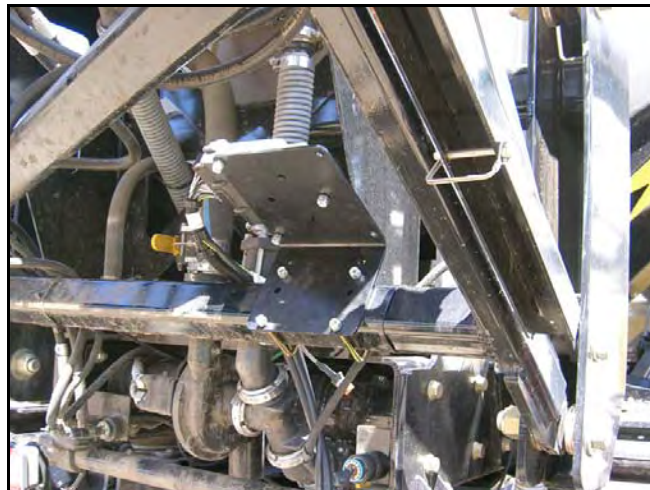

Figure 1: Mounting CAN Node
2. Attach the CAN node mounting bracket to the cross-member using the supplied U- bolts and hardware. (See Figure 1)
3. Attach the CAN node to the CAN node mounting bracket using supplied Hardware. (See Figure 1)